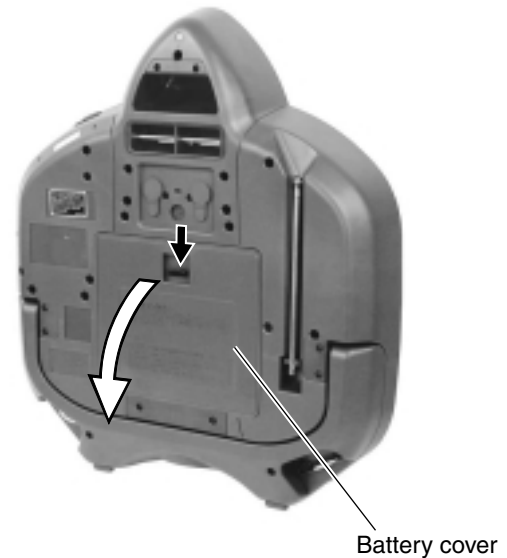

Fig.20
■ Removing the battery board (1) / battery board (2) (See Fig.20 and 21)
2. Remove the two screws **Q** retaining the battery board (1).
3. Pull out the battery board (1) and disconnect the wire from inner connector CN401.
4. Remove the two screws **R** and pull out the battery board (2).